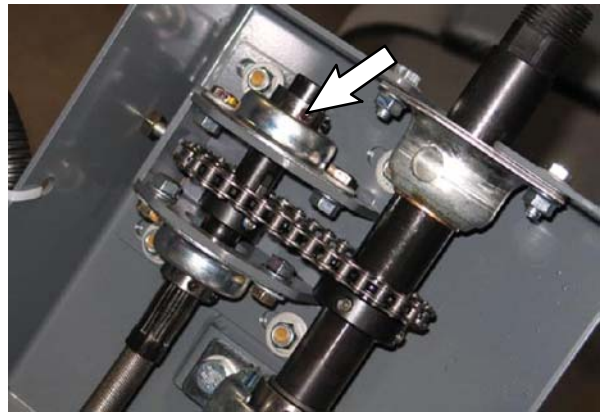
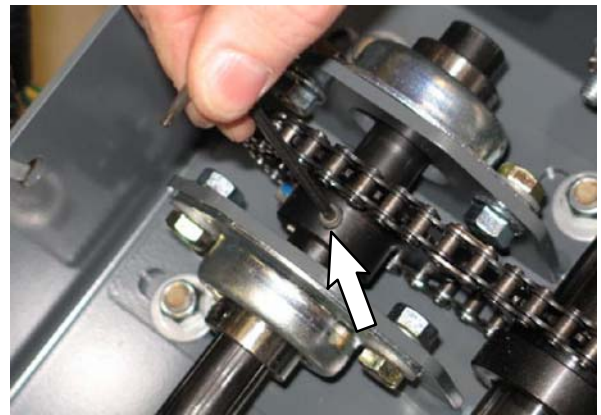
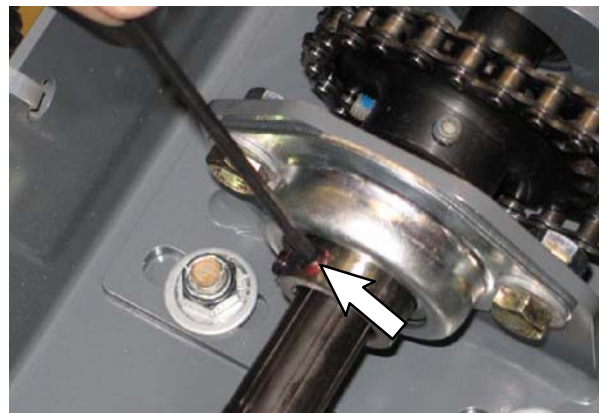

FIG. 21
FIG. 22
FIG. 23
19. Loosen the six set screws in the upper flange bearing, steering sprocket, and lower flange bearing. (Fig. 21 / Fig. 22 / Fig. 23)